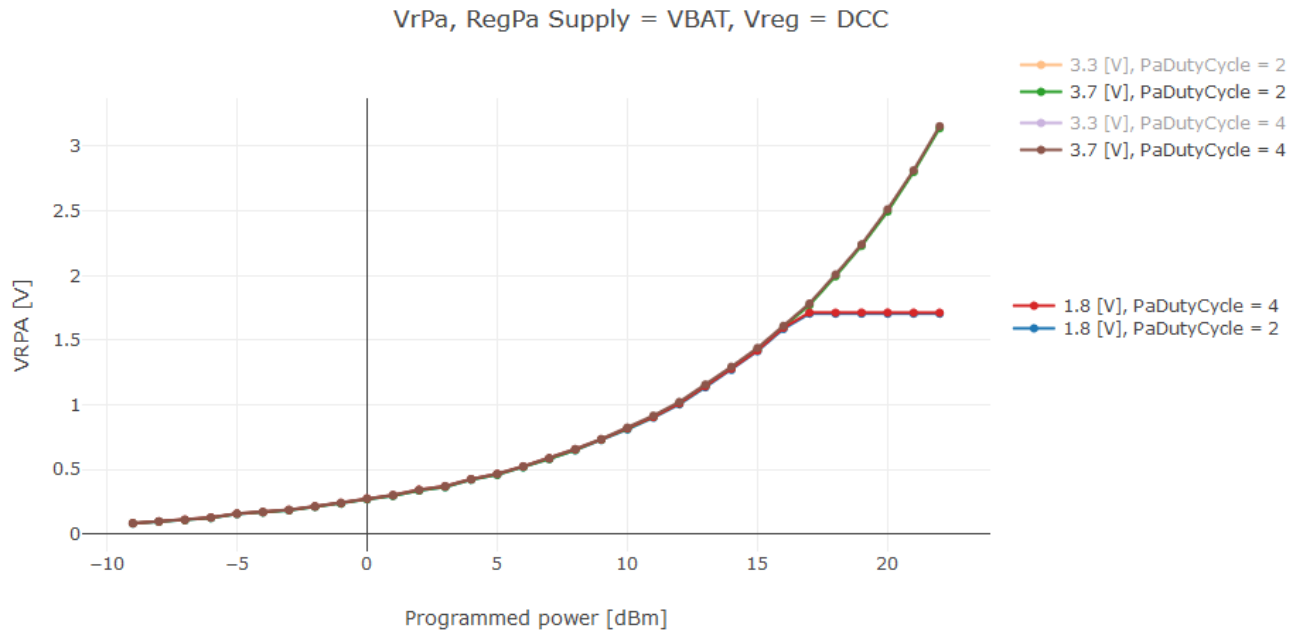

Figure 9-4: High Power PA VR_{PA} Voltage vs. $TxPower$
The VR_PA variation over the programmed power $TxPower$ for different supply voltages and duty cycle ($PaDutyCycle$) conditions is depicted in Figure 9-4: High Power PA VR_PA Voltage vs. TxPower here below.
- For the +22dBm power setting, a VR_PA of ~3.1 V is required (refer to Figure 9-4). Therefore, given the 200 mV drop-out of the PA regulator, the +22 dBm output power can only be obtained from a 3.3 V to 3.7 V supply voltage range.